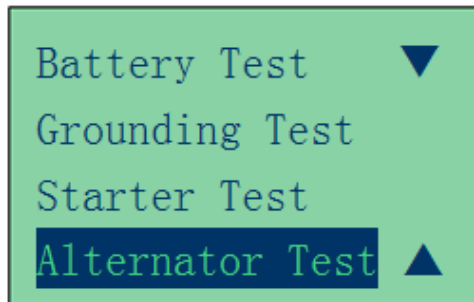

Figure 42
4. Pressing  key to scroll down to the 'Alternator Test' (Fig.42)